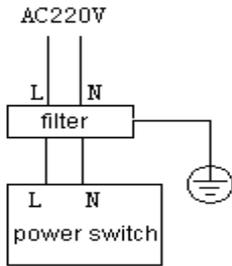

Figure 1-4
1. Keep CNC far from the equipment that can produce interferences (such as the frequency converter, AC contactor, static generator, HV generator and section devices of power line). At the same time, the switching power supply shall be separately connected to the filter so as to enhance the anti-interference capacity of CNC (see Figure 1-4).